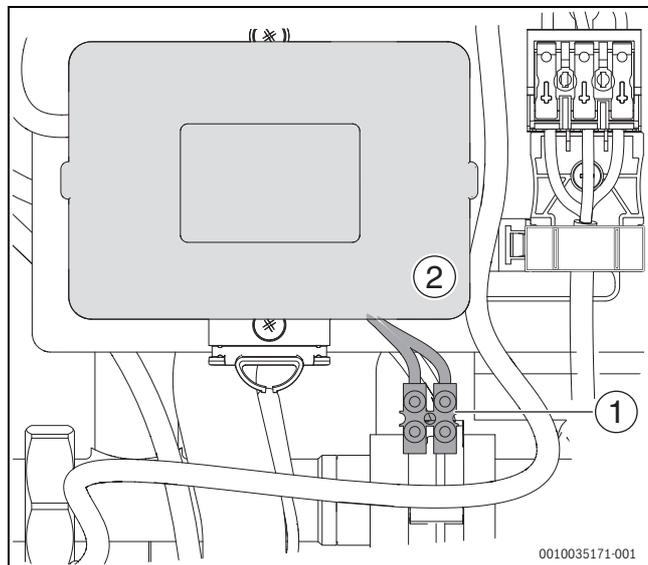

Fig. 28 Connection terminal on the relay box
- ▶ Connect the external booster heater to the connection terminal of the relay box (→ Fig. 28 [1], [2] and chapter 12.2, page 33 [23]).